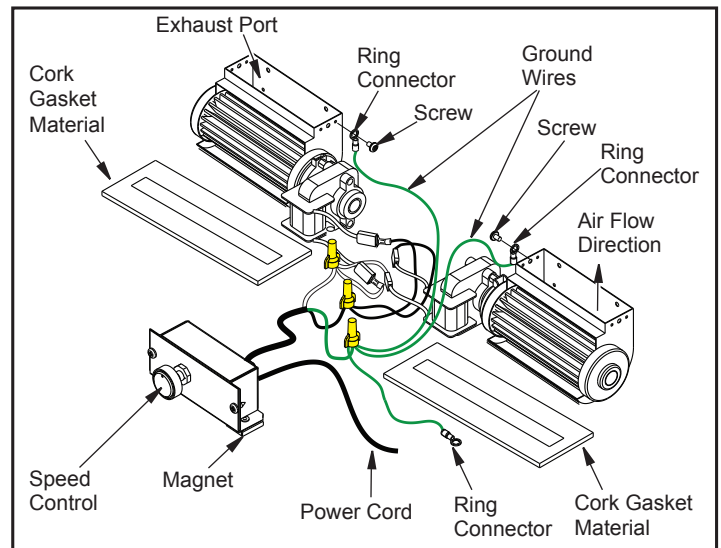

Figure 5 - Blower Model LPDBK2
Note: The LPDBK2 blower kit is for application into direct-vent models listed on the front page only and is already factory pre-wired. When installing the LPDBK2 blower kit you must first check that all wiring connections are secure from the speed control to the blower. Make sure gasket material adhered to the bottom casing of blower is intact (See Figure 5).
3. Be certain that all the terminals are securely attached on blower and that the screws retaining the green ground wires are tight (See Figure 5).